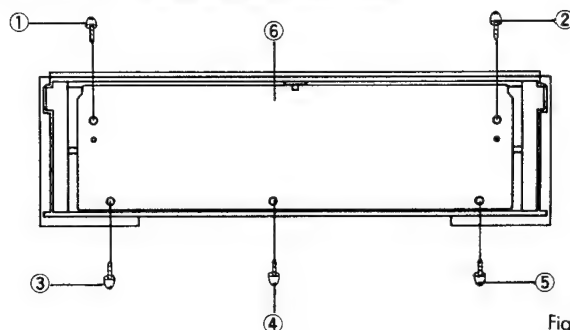

Fig. 4
2. Remove screws ① to ⑤ in Fig. 4, and then remove the control pcb ⑥